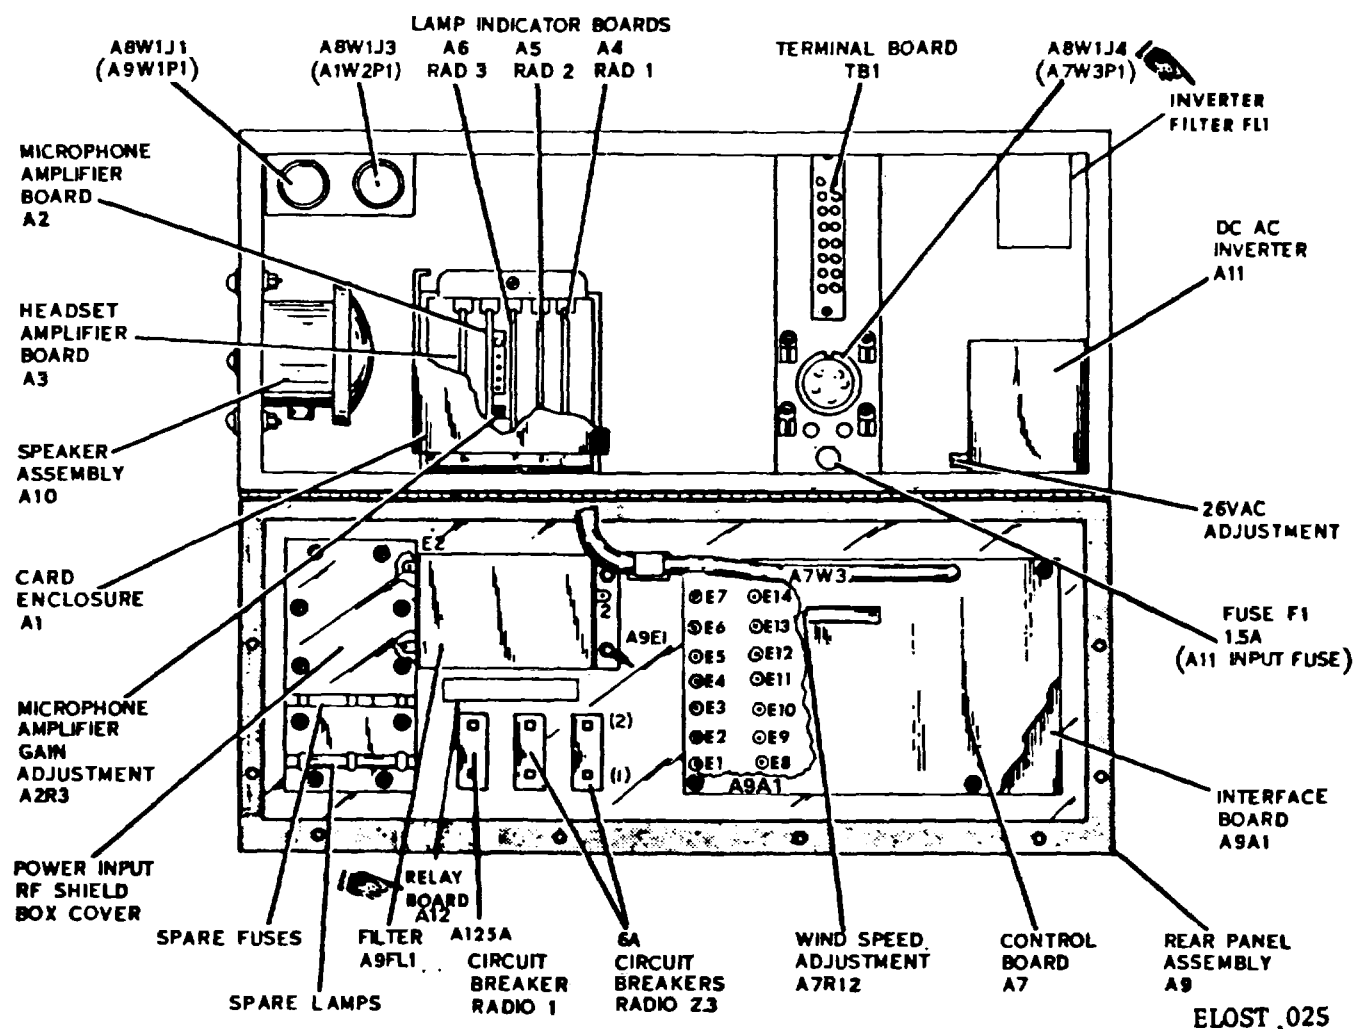

Figure 3-1. Control-Monitor C-9921/TSQ-97 (Unit 1A1) Rear Interior View
a. *Visual Inspection.* Inspect for obvious damage, cables not properly connected, switches not in proper position for expected results. Unfasten eight captive rear panel fasteners. Lower rear panel and inspect interior to see that all connectors are secure and nothing is missing. Figure 3-1 shows the interior view with rear panel A9 lowered.